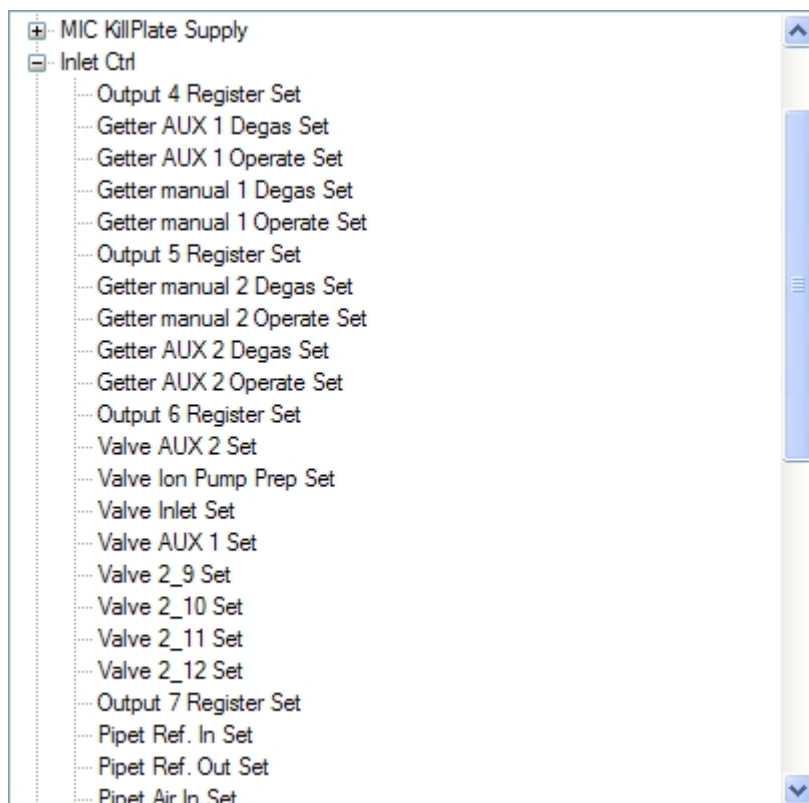

Figure 3-37. Prep Bench Inlet Control
6. In order to view the available entries for the Prep Bench, expand the second *Inlet Ctrl*, see Figure 3-37.